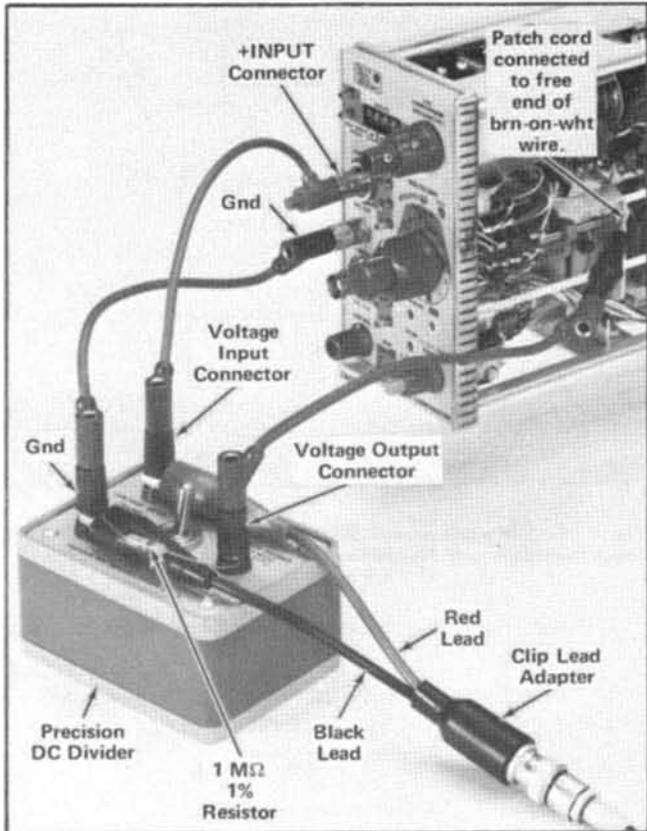

Fig. 5-8. Closeup view of the Precision DC Divider interconnections to the Type 7A13.
- c. Connect a 6-inch patch cord from the Type 7A13 +INPUT connector to the Precision DC Divider Voltage Input connector (see Fig. 5-8).